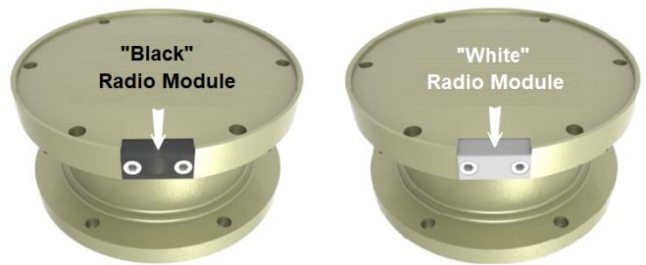
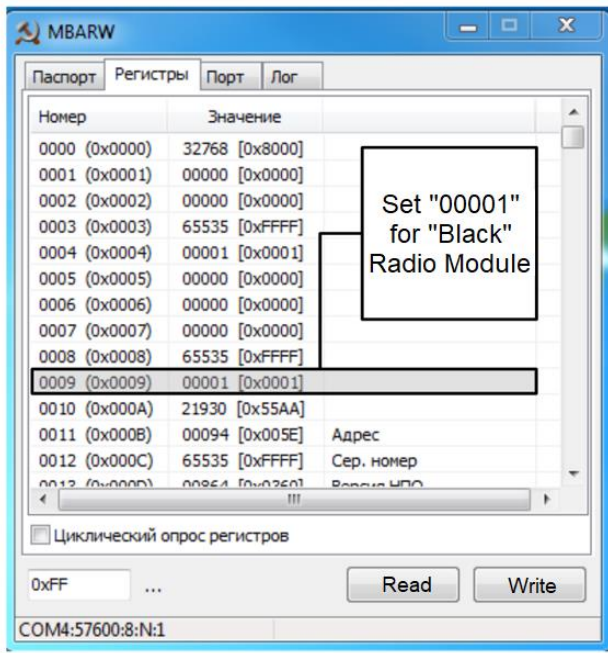

Figure 6. Types of radio module of the DCM-140(R)
Figure 7. MBARW service software interface (the PS-150(R) setup)
The PS-150(R) has nameplate with the Firmware version (see Fig. 5). The 3.60 and above versions are suitable to communicate with the DCM-140(R) sensors that are equipped by both, "black" and "white" radio modules (see Fig. 6), however, this version is set up for "black" radio module by default. To adjust the PS-150(R) to the required DCM-140(R) it is necessary to connect to the Signal Transducer by USB-RS485 converter and service cable, to setup dedicated COM-port in the browser and using the MBarW service software set the value of register #9 to "00001" for "black" radio module (see Fig. 7) or to "00257" for "white" one (See Fig. 8). Press the "Write" button then.
The PS-150(RA) with the Firmware version 4.21 and above are suitable to communicate with the DCM-140(R) sensors that are equipped by both, “black” and “white” radio modules (see Fig. 6), however, this version is set up for “black” radio module by default. To adjust the PS-150(RA) to the required DCM-140(R) it is necessary to connect to the Signal Transducer by USB-RS485 converter, service cable and using the mm_calibrat service software perform the following adjustments: